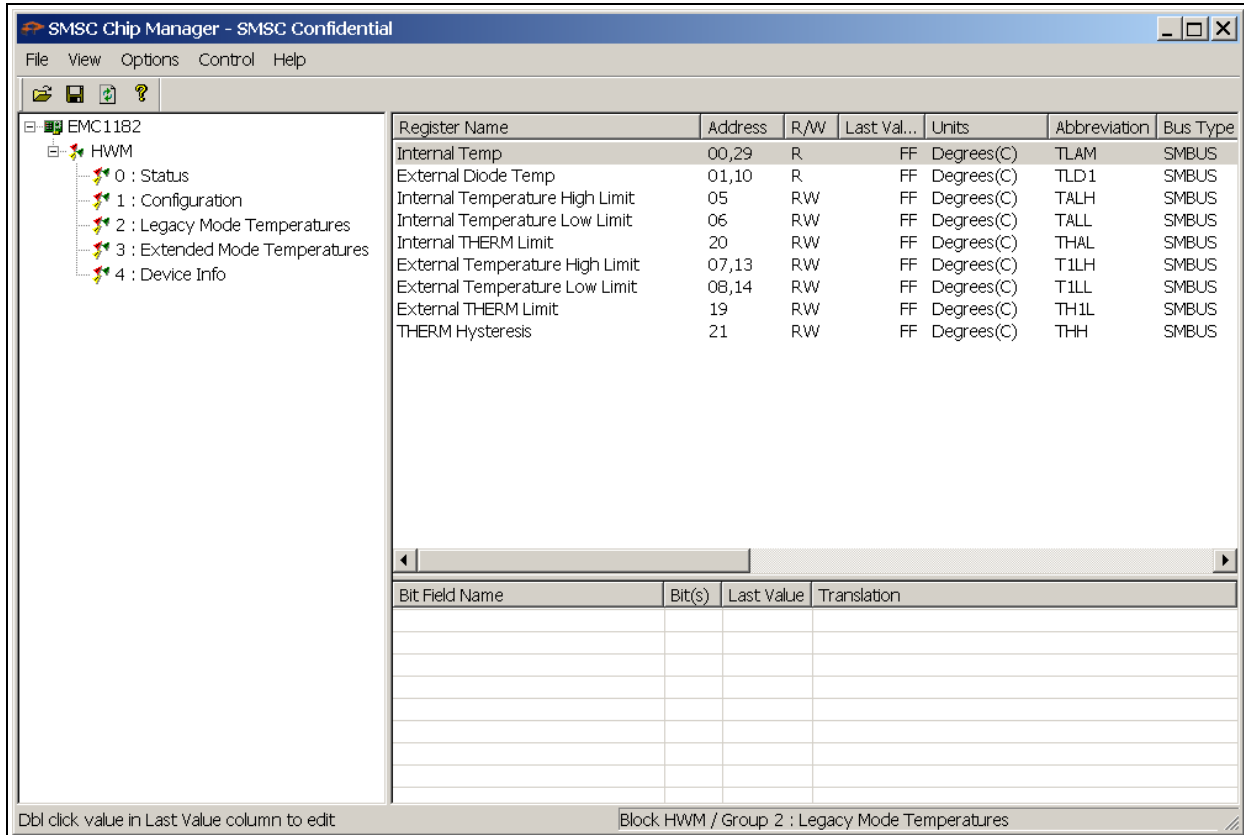

FIGURE 2-9: Chip Manager Register Groups.
- From the Chip Manager main menu, ensure that *Options > Auto refresh Registers* is checked. In the left panel, click the hardware monitor (HWM) to expand the content, then select any of the register groups, as shown in Figure 2-9. The USB Activity LED on the board starts blinking when any of the register groups are selected. The register values are automatically updated every second when the Auto Refresh option is on.